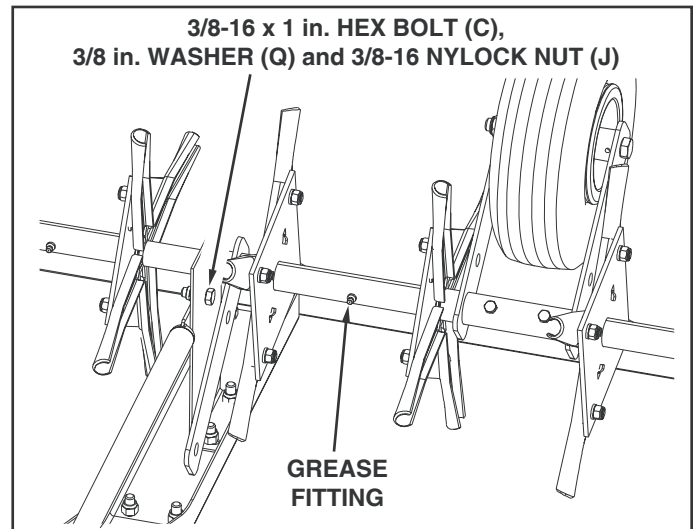

FIGURE 10
15. Apply grease to the grease fitting of each spool assembly until grease is squeezed out from each end. See figure 10.
16. Loosely fasten the tube brace to the middle bracket with one 3/8-16 x 1 in. hex bolt, one 3/8 in. flat washer and one 3/8-16 nylock hex nut. See figure 10.